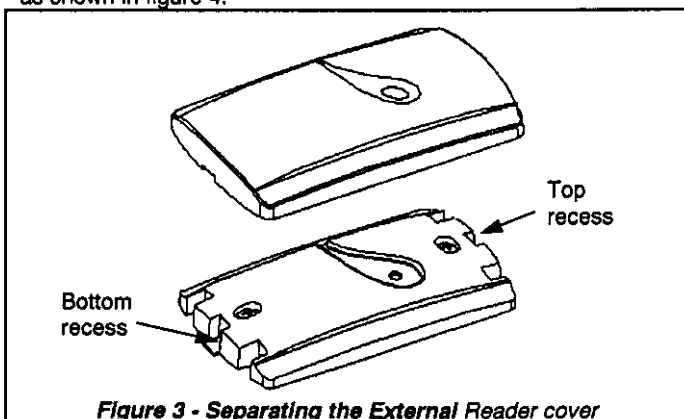

Figure 3 - Separating the External Reader cover
- Compliance with standards: Complies with Part 15 of the FCC Rules and RSS-210 of Industry and Science Canada. Operation is subject to the following two conditions: (1) This device may not cause harmful interference, and (2) this device must accept any interference received, including interference that may cause undesired operation.
- A. Use a screwdriver, in the base bottom or top recess (see figure 3), to lever out the base from the reader.
Caution: Close the cover in the proper direction (see figure 3) otherwise the LED light will not be visible.